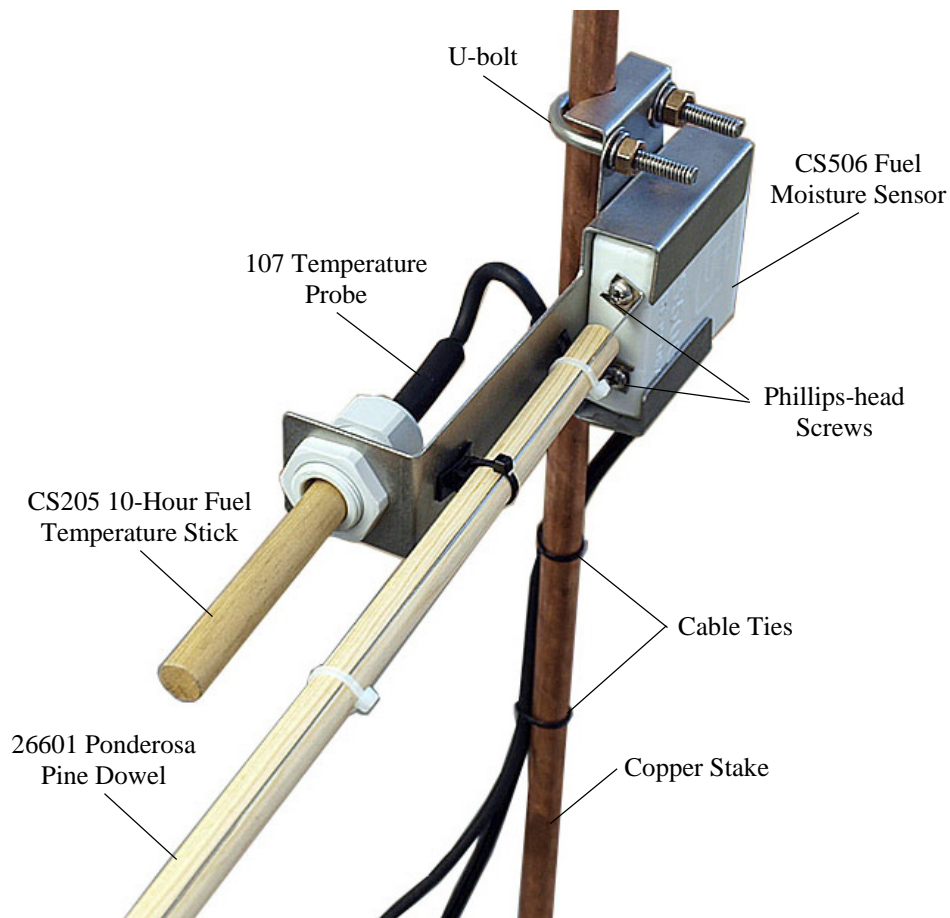
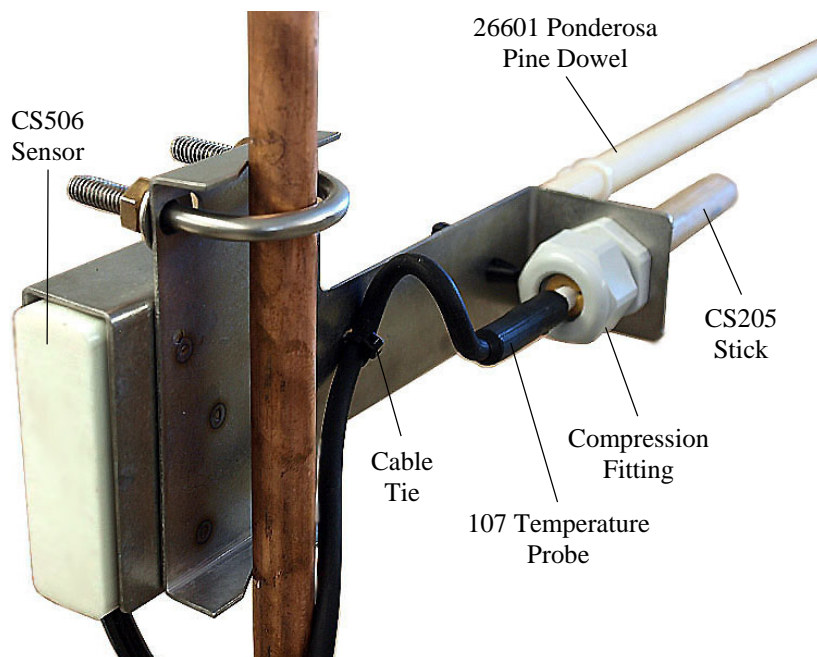

FIGURE 6-1. Front view of the 26817 fuel moisture/temperature mounting stake
FIGURE 6-2. Back view of the 26817 fuel moisture/temperature mounting stake
The CS506/26601 is typically mounted with the CS205/107 using the 26817 Mounting Kit (FIGURE 6-1 and FIGURE 6-2). The kit's bracket places the probes in a horizontal position.
10. Use the ultraviolet light resistant cable ties included in the 26817 mounting kit to secure the cables. One cable tie passes through the two slots in the bracket to loosely secure the cable of the CS205/107 (FIGURE 6-2). The other two cable ties secure both cables to the copper stake (FIGURE 6-1).